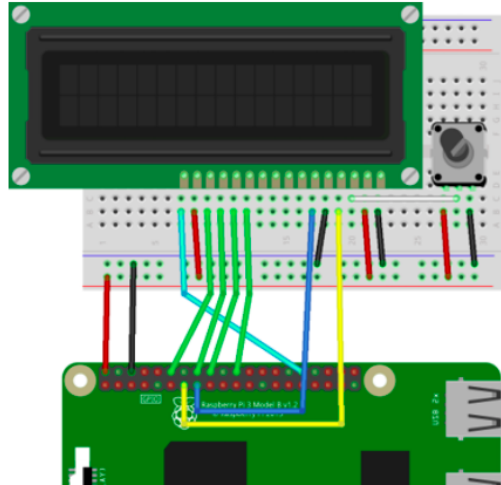

Figure 11-1 Physical sensors connection.
- And insert the jumper wires connecting the LCD Display in the Potentiometer and breadboard, as the scheme shown in the Figure 11-1.
The Figure 11-1 shows how the electric connection is made.